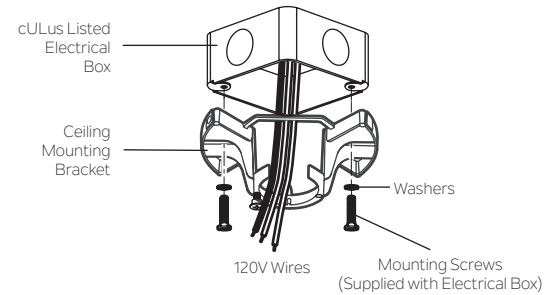

Fig. 6
**Step 3.** Pass the 120 volt supply wires from the ceiling outlet box through the center of the ceiling mounting bracket. (Fig. 6)
**Step 4.** Attach the ceiling mounting bracket to the outlet box using the screws and washers included with the outlet box. (Fig.6)